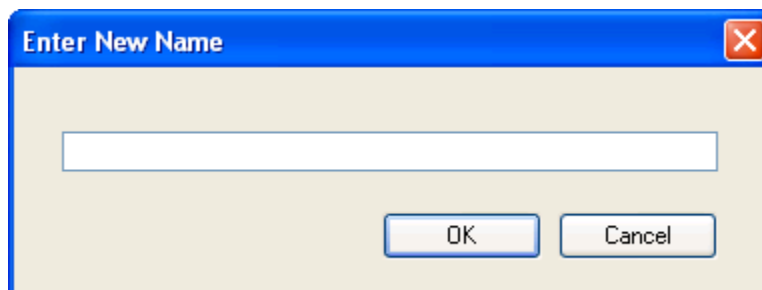

Figure 45 - Enter New Name Window
3. The **Enter New Name** window (Figure 45) appears.